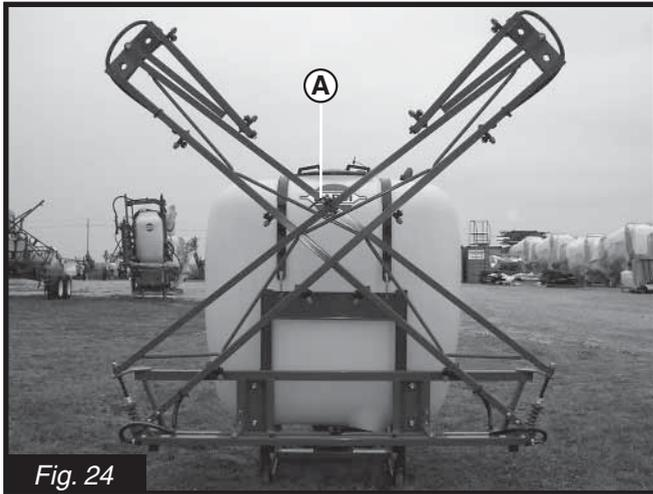

Fig. 24
1. Remove transport lock pin **A** (Fig. 24) and swing boom into operating position. Store transport lock pin in original location so it doesn't get lost.
2. Remove transport lock pin **A** (Fig. 24) and fold boom into transport position. Secure with transport lock pin **A** (Fig. 24).